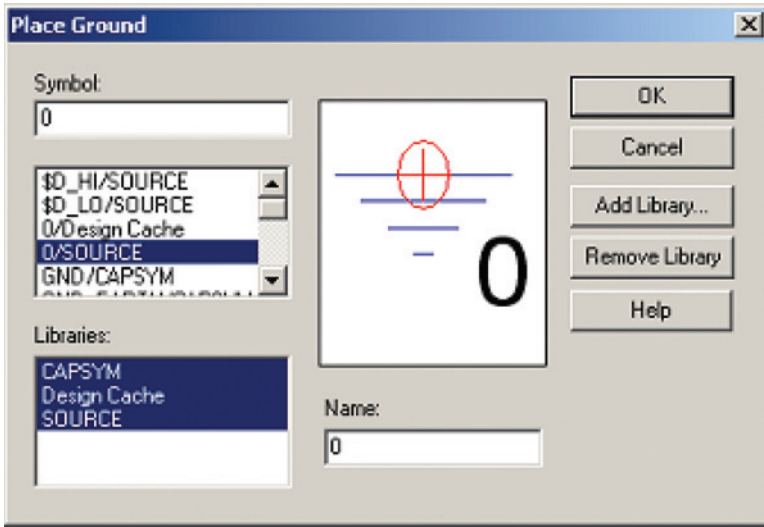

Figure 7-44 Place Ground dialog box.
Finally, place three zero (0) ground references on the schematic page. Click the Place Ground tool,  and then select **0/SOURCE** from the **Place Ground** dialog box as shown in Fig. 7-44. For schematic entry and Layout you can use any ground symbol, but for PSpice simulations you have to have at least one “0” reference ground.